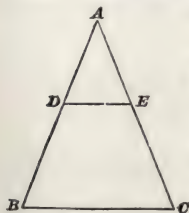

FIG. 27.
**57.** If a straight line be drawn through two sides of a triangle, parallel to the third side, a second triangle will be formed whose sides will be proportional to the corresponding sides of the first triangle. Thus, in the triangle  $ABC$ , Fig. 27, if the line  $DE$  be drawn parallel to the side  $BC$ , the triangle  $ADE$  will be formed and we shall have
- (1) Side  $AD$  : side  $DE$  = side  $AB$  : side  $BC$ ; and,
- (2) Side  $AE$  : side  $DE$  = side  $AC$  : side  $BC$ ; also,
- (3) Side  $AD$  : side  $AE$  = side  $AB$  : side  $AC$ .
**EXAMPLE.**—In Fig. 27, if  $AB = 24$ ,  $BC = 18$ , and  $DE = 8$ , what does  $AD$  equal?
**SOLUTION.**—Writing these values for the sides in (1),